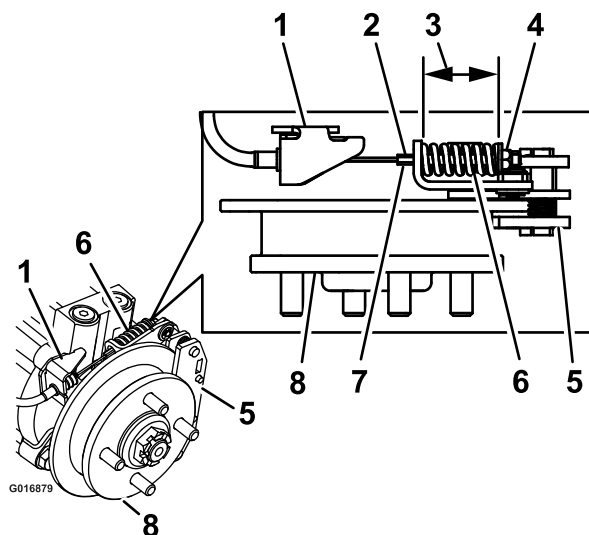

Figure 73
9. Hold the threaded rod end with a tool and adjust the lock nut until the spring length is between 1-1/2 and 1-9/16 inches (3.8 and 4.0 cm) (Figure 73). Do Not allow the cable to turn when the nuts are being loosened.